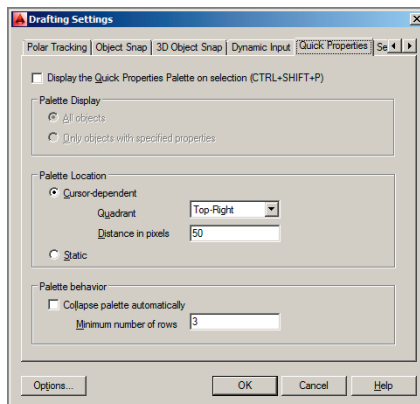

FIGURE 6.9 Drafting Settings dialog box
1. Type **DS**, and press Enter. Select the Quick Properties tab of the Drafting Settings dialog box and uncheck Display The Quick Properties Palette On Selection (see Figure 6.9). Click OK.